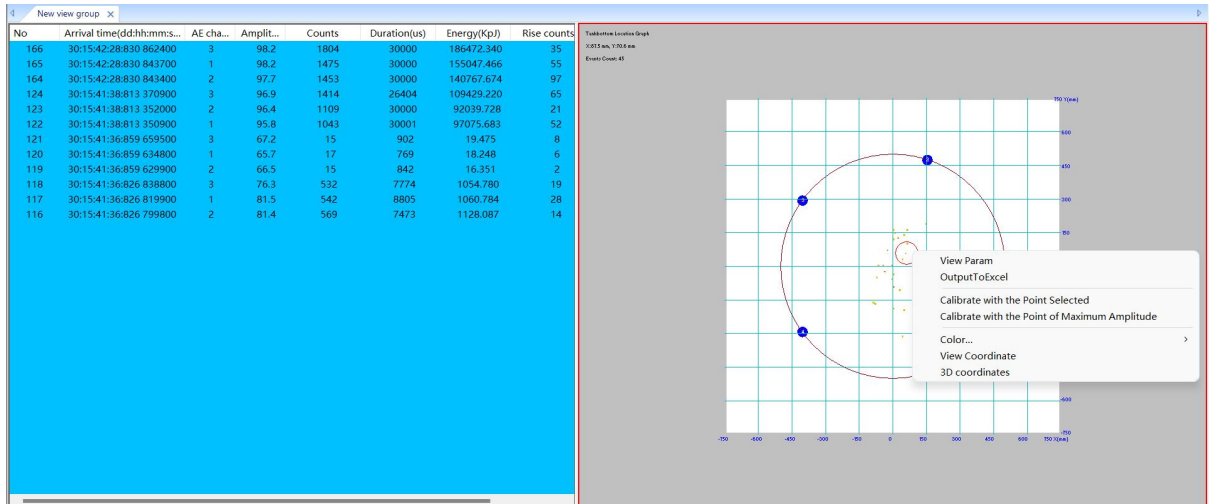

Fig. 6-69 Tank Bottom Location Graph View Parameters
**View Param:** enable it to call out the red circle used to filter out the parameters within the circle area. Move the red circle to the interested area, if there are location points, the parameters of the circled location points will be filtered and displayed in the "Data Table"; as shown in Figure 6-69;